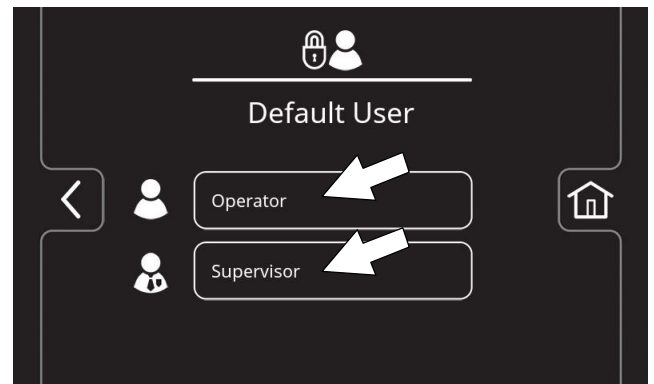

FIG. 186
6. Press either the Operator button or Supervisor button to select desired user profile as your home screen default without login (Figure 186).